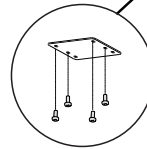

Fig.10
- In the PM670V size, the external support bracket must be installed with the 4 screws provided (fig.10).